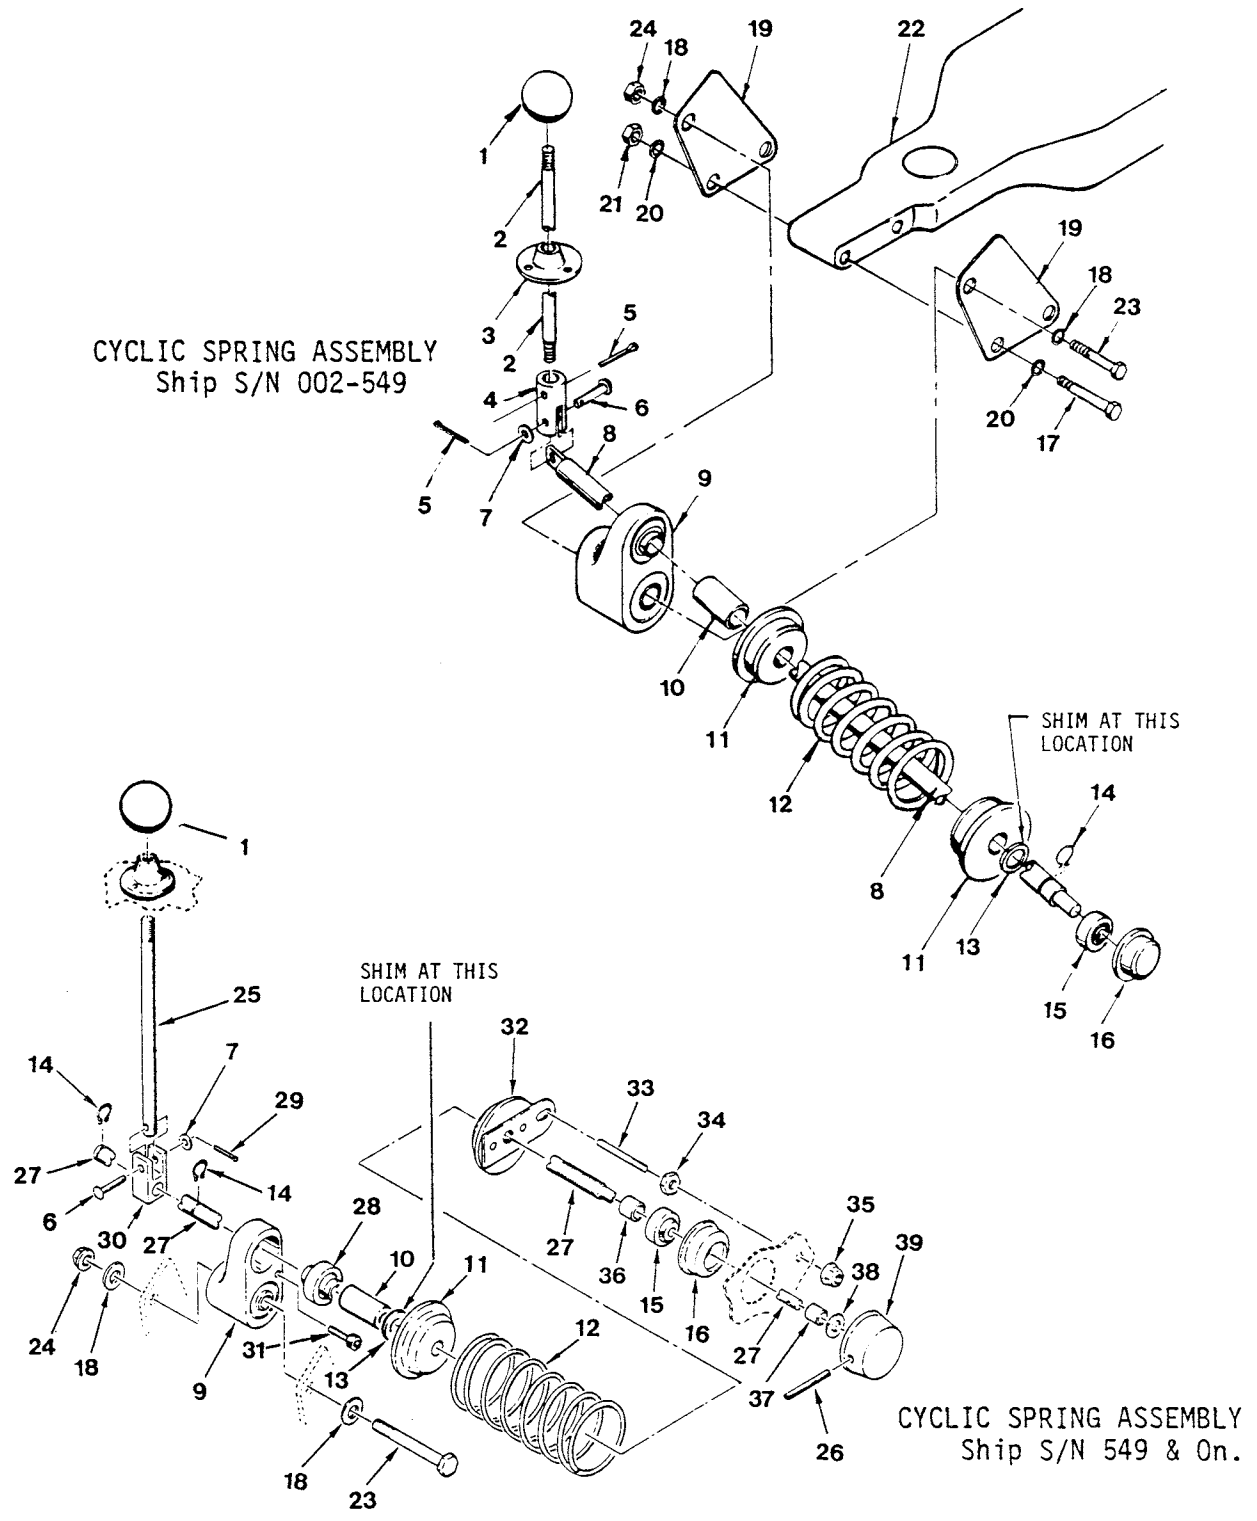

FIGURE 8-4 RIGHT TRIM ASSEMBLY
8.133 Right Trim Spring Replacement & Shimming (See Fig. 8-4)
- b) Shimming Right Trim Spring (See Fig. 8-4)